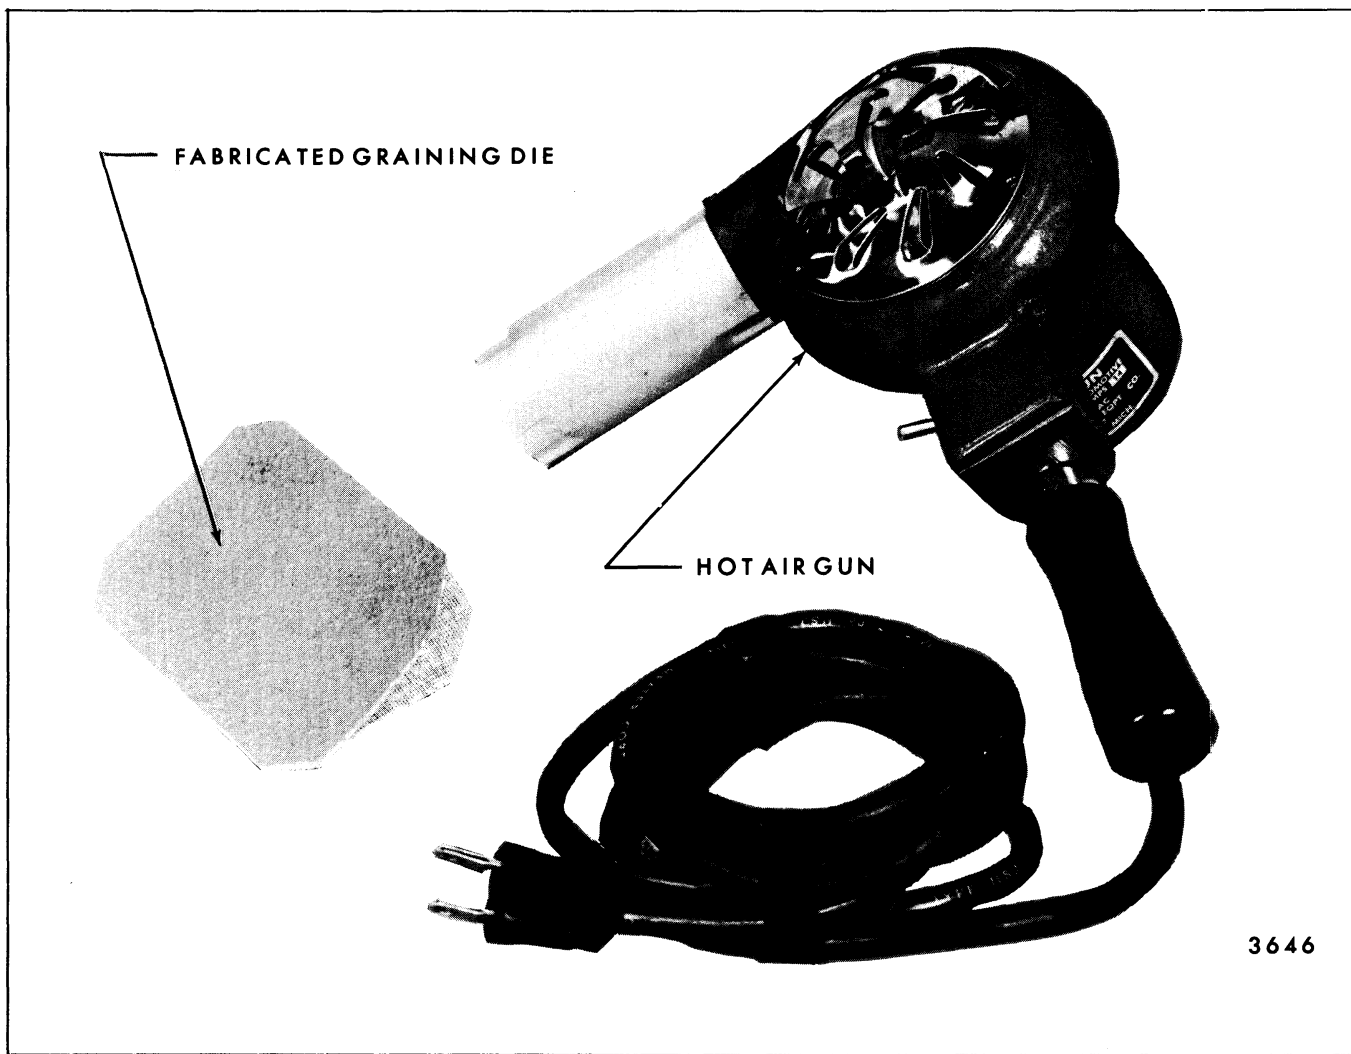

Fig. 8-31-Fabric Roof Cover Repair Die and Hot Air Gun
2. Repair utilizing a fabricated plastic body filler graining die and a heat gun, Figure 8-31.
1. Plastic Body Filler and Hardener - a two-part material for fabricating a graining die with an impression of the grain present in the vinyl surface of the fabric roof cover (see Fig. 8-31).
7. Heat Gun - used to cure vinyl patching compound, preferably 500 degrees to 700 degrees heat range (Fig. 8-31).